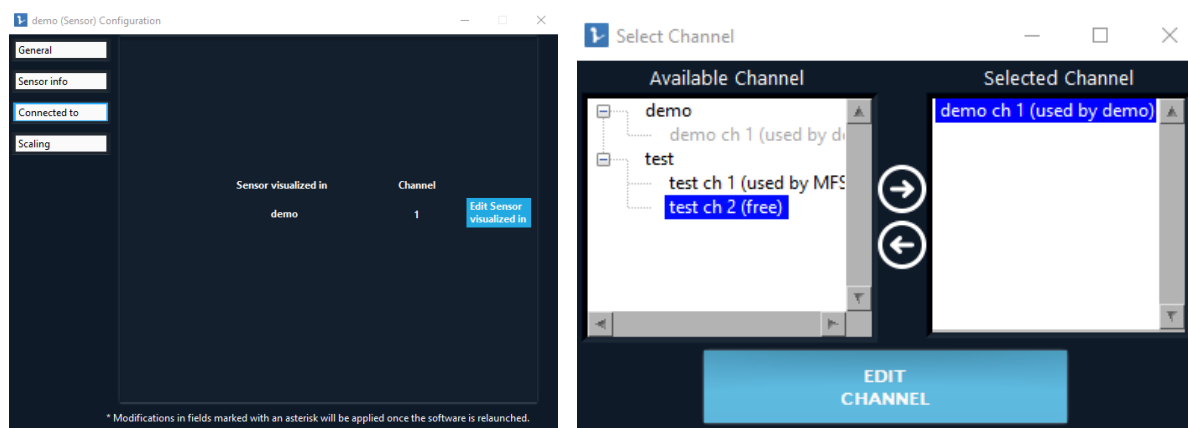

Fig.27 : How to add and name a BFS Flow sensor (A) Open the sensor parameters (B) Select “Connected to” (C) and Select the display windows (D)
- Pressing add instrument \ select BFS (figure 27 A)
Once the BFS sensor is added as an instrument, it should appear both in the instrument section and the sensor section (figure 27. B)
- Select connected to (figure 27. C)
- Click on the right arrow to add the BFS to the correct displayed location (Figure 27.D)